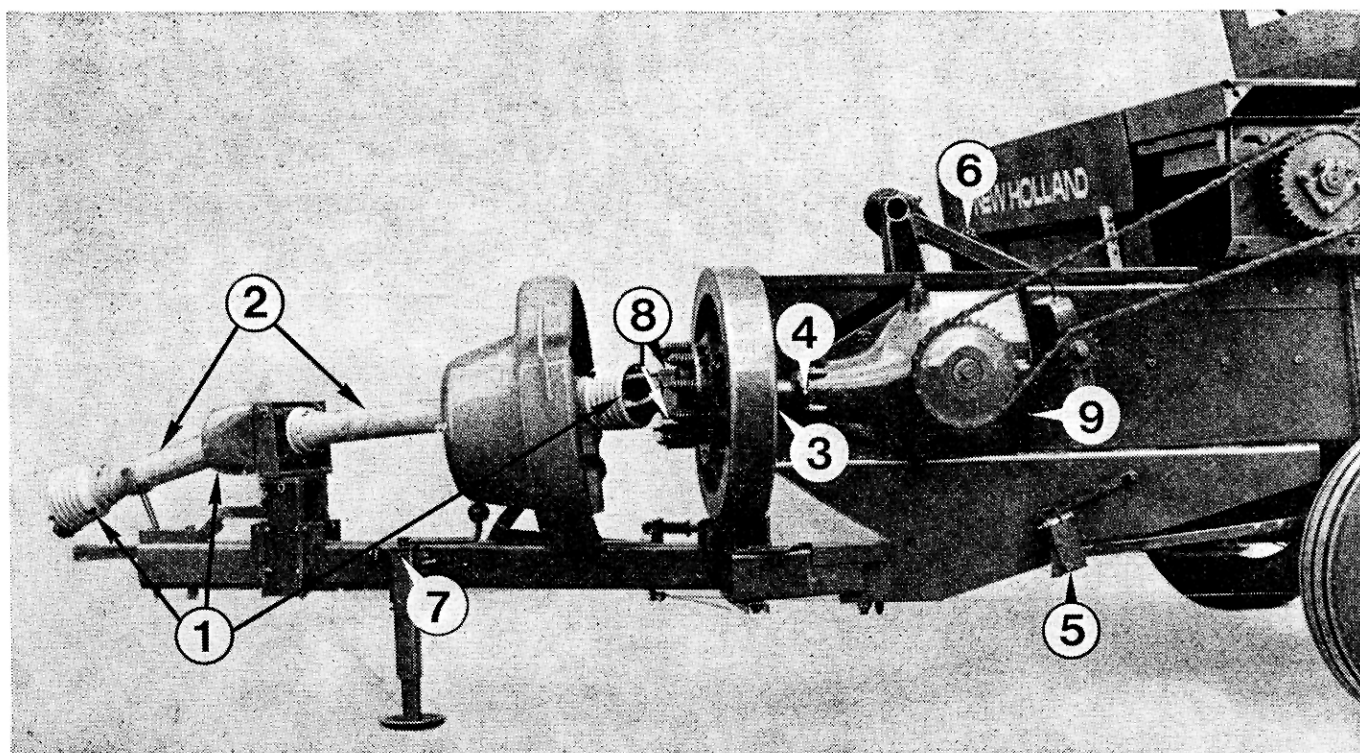

Figure 1
1. Fig. 1 – Universal joints (3 off).
2. Fig. 1 – Telescoping shafts (2 off).
3. Fig. 1 – Flywheel bush.
4. Fig. 1 – Gearbox shaft.
5. Fig. 1 – Needle safety latch.
6. Fig. 1 – Connecting rod.
7. Fig. 1 – Jack.
8. Fig. 1 – Over-run clutch pins.
9. Fig. 1 – Gearbox.